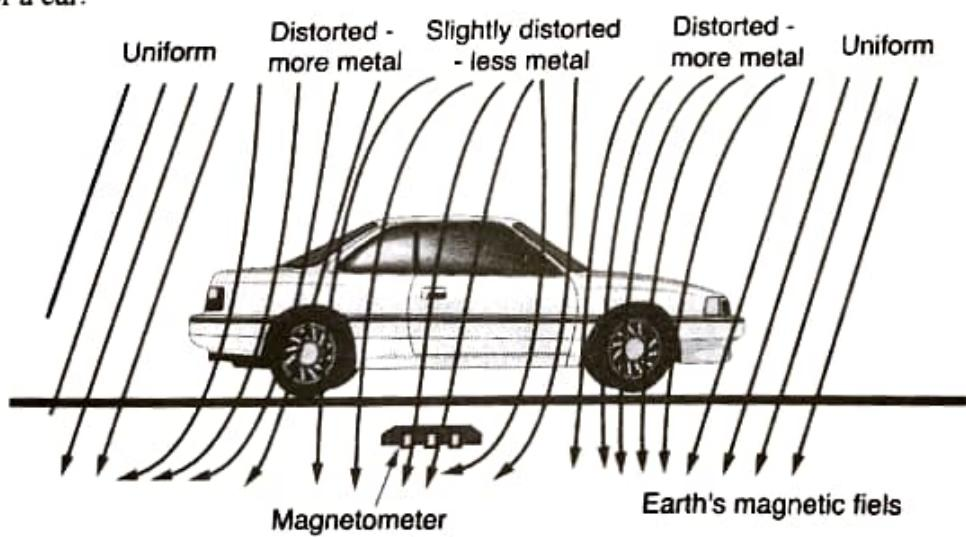

Fig. 6.2.6(a) : Magnetometer
- As shown in Fig. 6.2.6(a) , the deviations are much stronger around the engine and the wheels of a car.